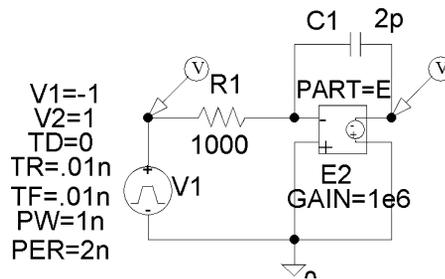

FIGURE 4.27: Integration using the E part
- (1) Use an **ABM E** part to create the integrator in Fig. 4.27. The input data is applied using a **VPWL** part, or a **VPULSE** part with ± 1 V amplitude, **PW** = 1 ns, and **PER** = 2 n. Here, $\tau = CR = 1 \text{ k}\Omega \times 2 \text{ pF} = 2 \text{ ns}$.